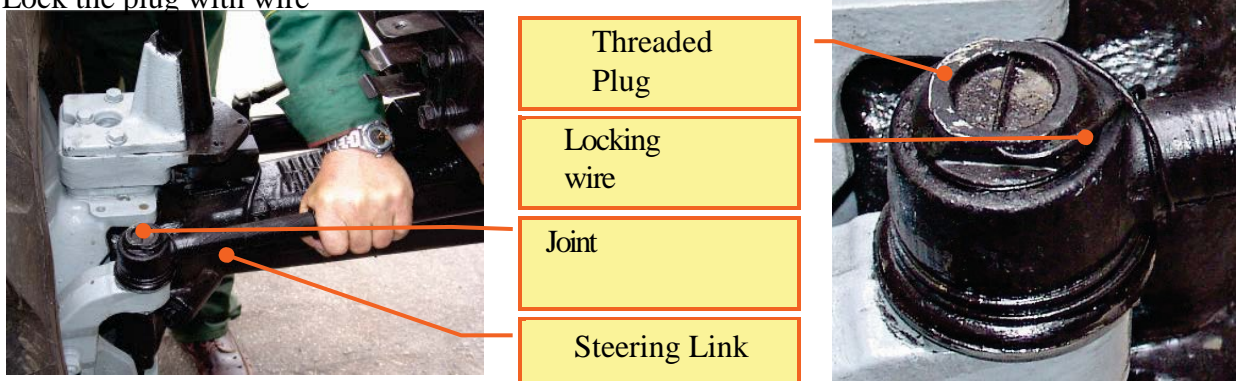

Figure 8.63
**Procedure 55. Checking the Steering Link Joints for Play (fig. 8.63)**